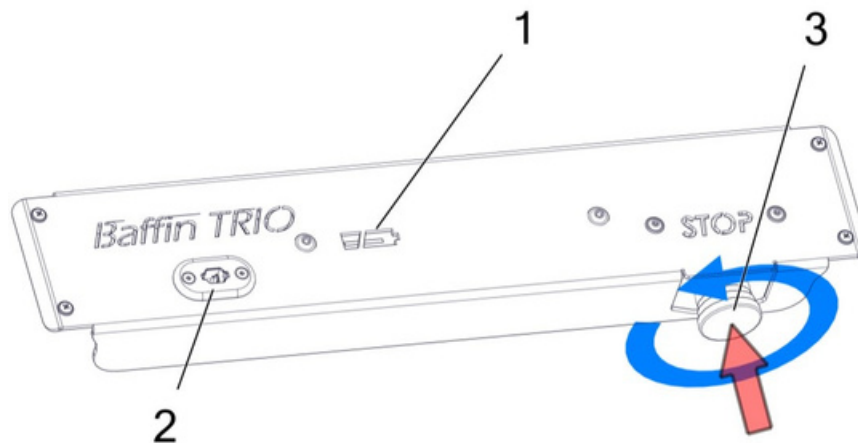

Fig. 4
- Observation of the battery charging level by controlling the change of the control lamp colour – Fig.4, the number 1 marker.
- Connection of the charger to the battery – Fig.4, power outlet number 2.
- Emergency stop of the device with the emergency switch, which cuts off the power source from the device – Fig.4 the switch marked by number 3.
NOTE! THE REMOTE CONTROL'S OPERATION COULD BE ADDITIONALLY BLOCKED BY PUSHING THE EMERGENCY SWITCH BUTTON JUST IN FIG.4, MARKED WITH A RED POINTER. IT IS ADVISED FOR ONE TO BE PRESSED DURING THE ADJUSTING THE PATIENT AND REGULATING THE DEVICE TO PREVENT UNCONTROLLED MOVEMENT OF THE DEVICE. UNBLOCKING THE EMERGENCY SWITCH IS DONE BY TWISTING THE BUTTON TO THE DIRECTION COUNTERCLOCKWISE.